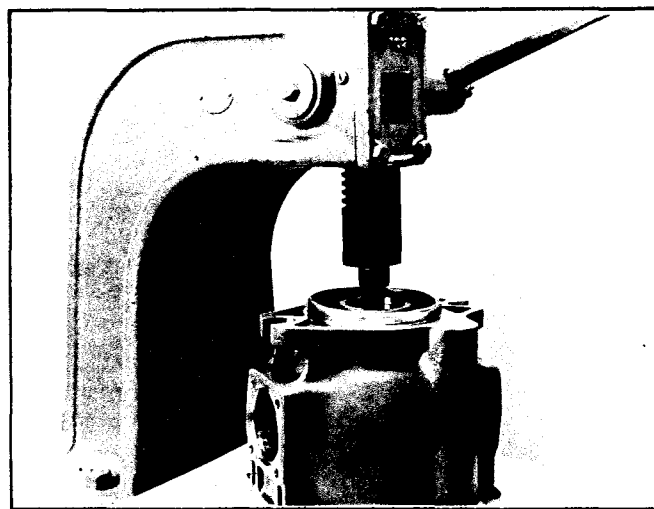

Figure 11. Removal of Front Bearing Race (74).
1. Inspect drive shaft (68) for wear, shipped splines, and burrs. Remove burrs with an India stone. Inspect the contact area of bearing (74) and shaft seal (76). Replace the drive shaft if wear or scoring is greater than 0.005 T.I.R. (total indicator reading).
2. Inspect drive shaft bearing (74) for roughness, pitting of rollers, and excessive end play. Replace, if defective. If the bearing needs to be replaced, the bearing race inside the housing (77) also requires replacement. To remove the bearing race from the housing, refer to Figure 11.
3. Inspect housing (77) mounting flange for nicks and burrs. Remove minor nicks and burrs with an India stone. Also check the housing for damaged or stripped threads. If any thread is damaged, replace the housing.